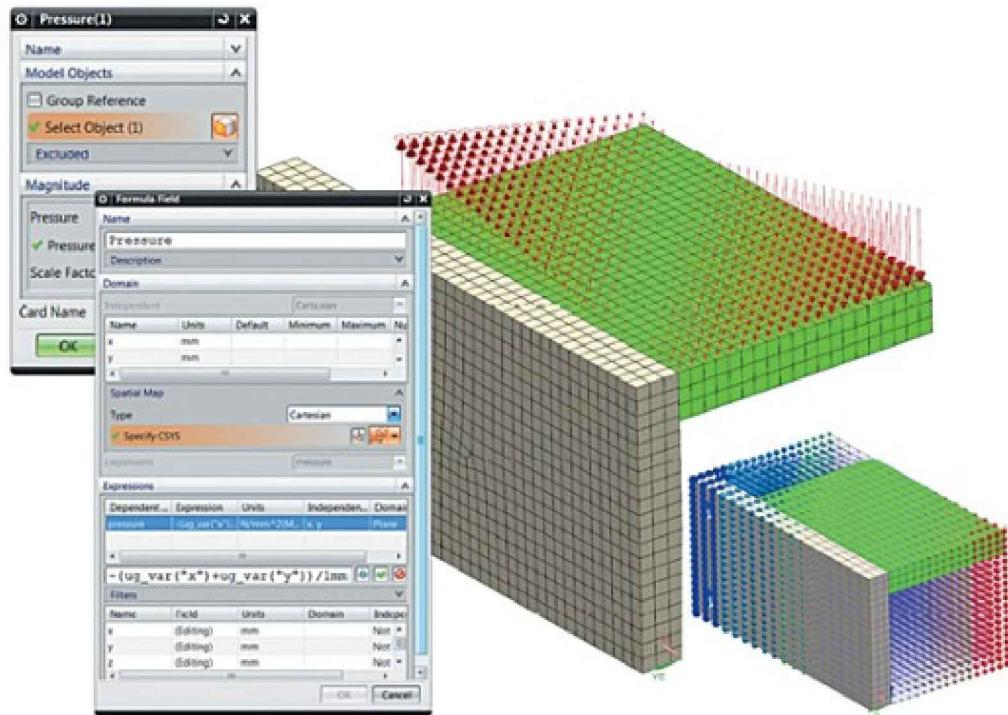

Figure 4.6. Spatial data field example
- Describe boundary conditions that vary in space. For example, a pressure value depends on where it is applied to the surface (Figure 4.6).